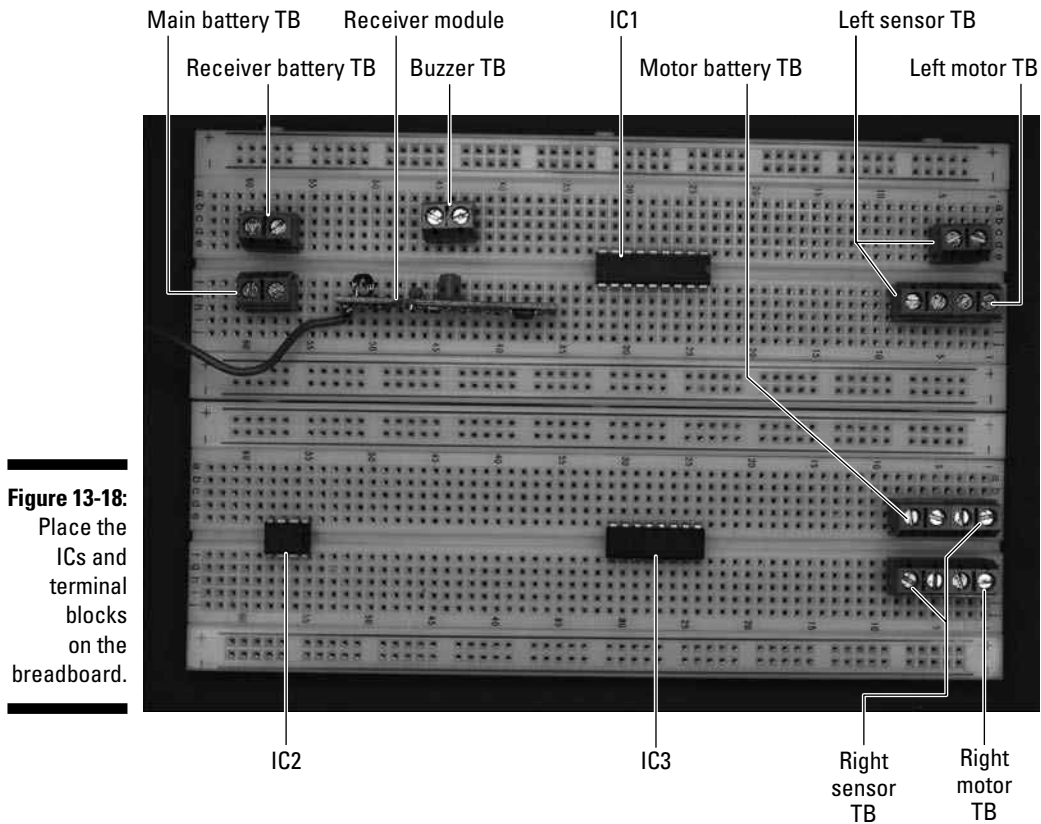

Figure 13-18:
2. Place the HT12D (IC1), the LM555 (IC2), the L293D (IC3), the receiver module, and ten terminal blocks on the breadboard, as shown in Figure 13-18.